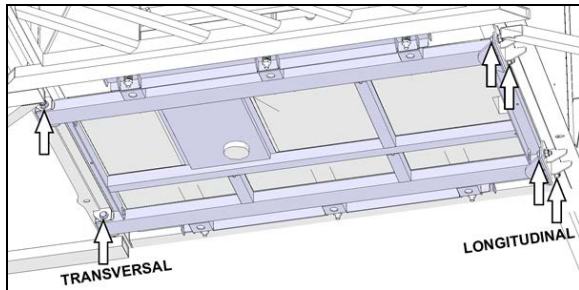

FIGURE 22: LOCATION OF MOUNTING POINTS
3. Carefully inspect fuel cradle mounting bolts, 6 locations (Figure 22).